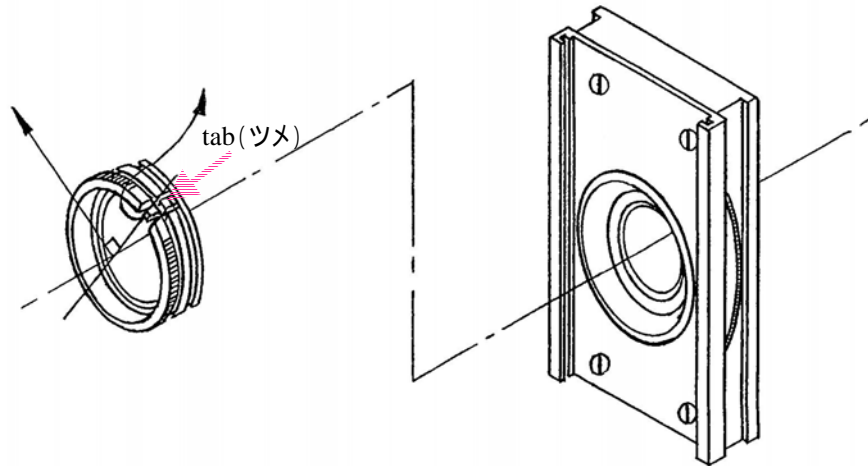

Figure 1
2. To mount the polarizer ring firmly in the polarizer mount gently bend the metal tab (as indicated in Figure 1) and push the ring into the mount.